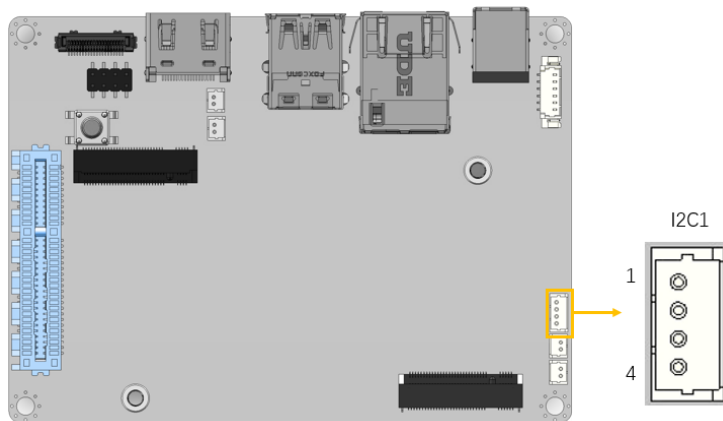

Figure 3-6: I²C Connector Location
- CN Location:** See **Figure 3-6**